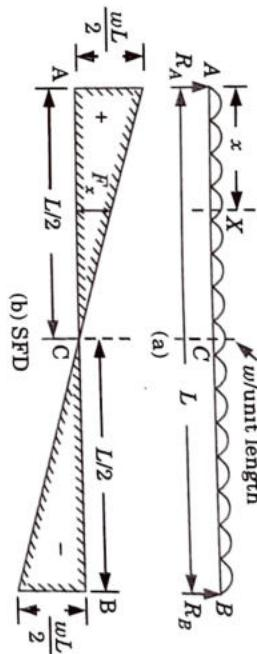

Fig. 1.21.1.
1. Fig. 1.21.1 shows a beam  $AB$  of length  $L$  simply supported at the ends  $A$  and  $B$  and carrying a uniformly distributed load of  $w$  per unit length over the entire length.
The shear force diagram is drawn as shown in Fig. 1.21.1(b).